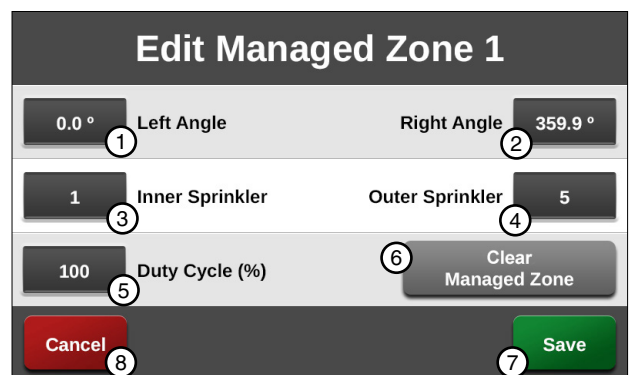

Figure 175-2 1. Left Angle 2. Right Angle 3. Inner Sprinkler 4. Outer Sprinkler 5. Duty Cycle 6. Clear Managed Zone 7. Save 8. Cancel
4. Select the **Left Angle** field and enter the Left Angle using the numeric keypad. Refer to Figure 175-2.